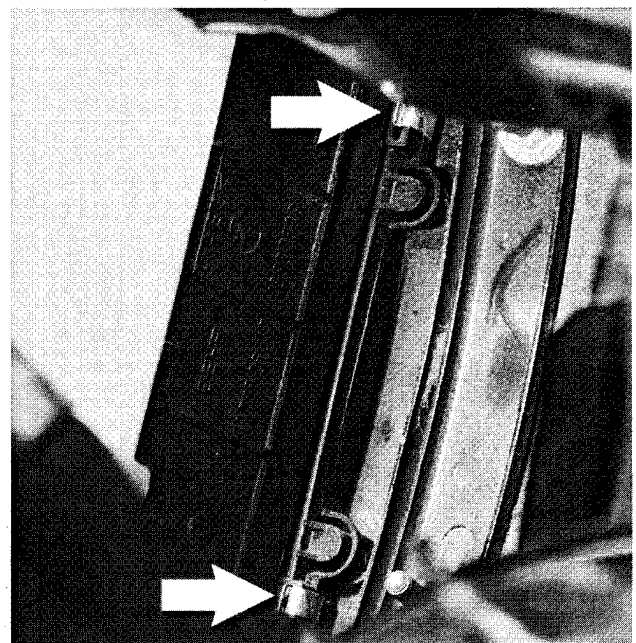

Fig. 6. Spring clips (arrows) on driver side of blower housing.
8. Remove left upper section of blower housing by detaching spring clips at edge of housing. See Fig. 6.